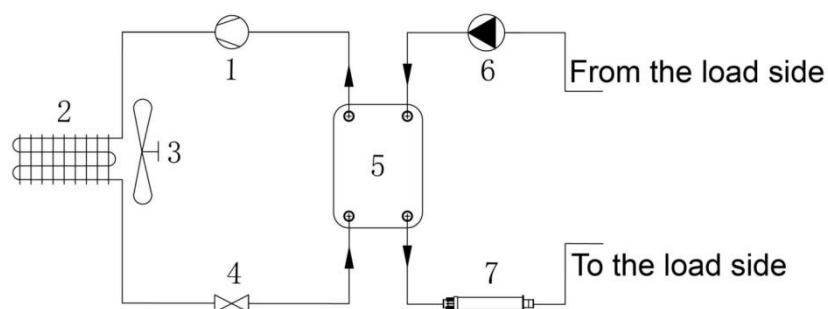

Fig.3.15 Chiller schematic diagram
The schematic diagram of the liquid cooler is shown in Figure 3.15. Liquid cooler includes: ① compressor ② condenser ③ external circulating fan ④ throttling original ⑤ plate heat exchanger ⑥ circulating water pump ⑦ electric heater